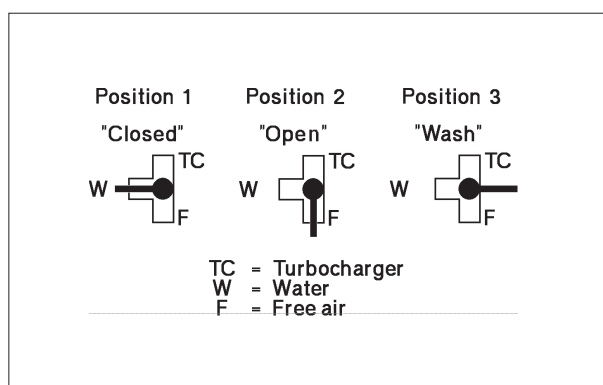

Fig. 2. 3-way cock.
- 3) Turn the 3-way cock to position 2 "Open", see fig. 2 and check for free passage. If ok turn to the water wash position 3 "Wash".